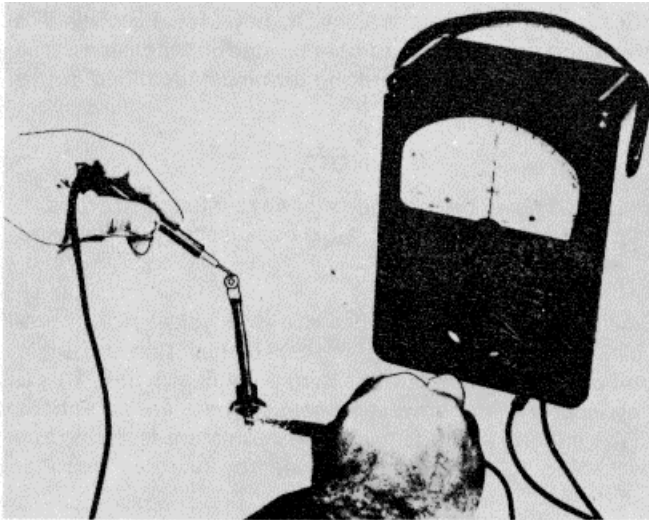

Figure 13B-6. Testing Silicon Rectifier
3. After disconnecting the rectifier from all external circuits, place one lead on the cathode and one on the anode and observe the meter reading as in Figure 13B-6. Then reverse the leads and observe the meter reading as in Figure 13B-7. One reading should show infinite resistance and the other should read some low value of resistance.